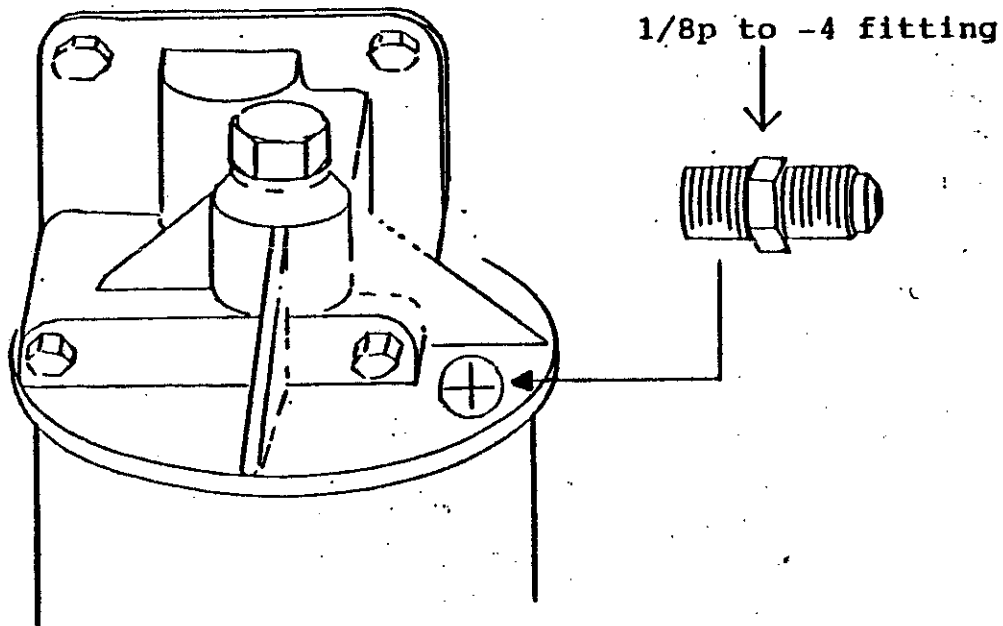

FIGURE 5
18. Remove oil filter canister and filter from oil filter housing. Remove oil filter housing from engine. Be careful not to damage gasket. Using Figure 5, mark and drill 21/64" hole in oil filter housing for turbo oiler line. Tap hole 1/8" pipe thread, wash out housing and install -4 to 1/8" pipe straight fitting with pipe sealant. Re-install oil filter housing. Install new oil filter and canister.